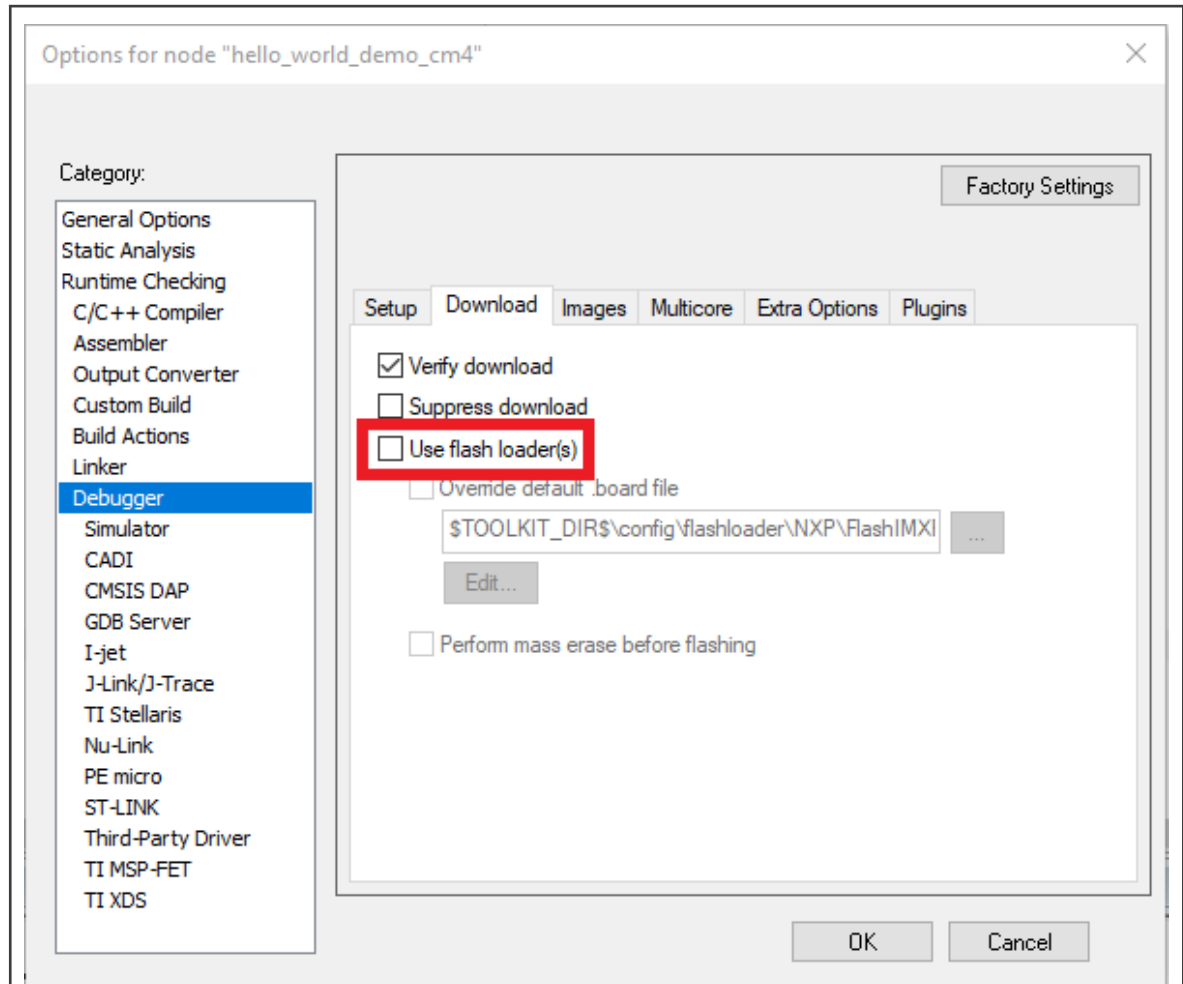

Figure 28. Uncheck Use flash loader(s)
- When downloading the `cm4` project, uncheck **Use flash loader(s)**, as shown in Figure 28, and change the contents of command line options as below: